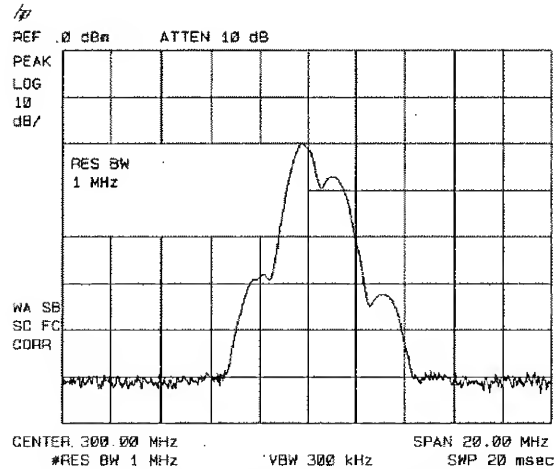

Figure 3-26. Viewing an AM Signal
2. First, center and zoom in on the signal in the frequency domain. (See "Decreasing the Frequency Span Using the Marker Track Function.") Be sure to turn off the marker track function, since the marker track function must be off for zero span. See Figure 3-26.